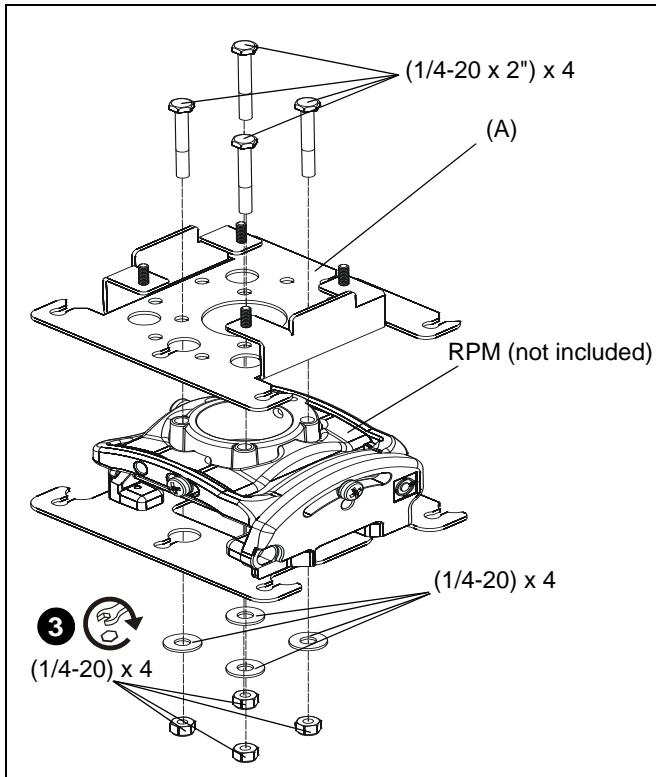

Figure 8
1. Insert four 1/4-20 x 2" hex head cap screws into four inner holes of wall mount adjustment bracket (A). (See Figure 8)
2. Attach RPM interface bracket by guiding four 1/4-20 x 2" hex head cap screws through four elevated holes in RPM, four 1/4-20 flat washers and into four 1/4-20 Nylock nuts. (See Figure 8)
3. Tighten Nylock nuts until connection is secure. (See Figure 8)